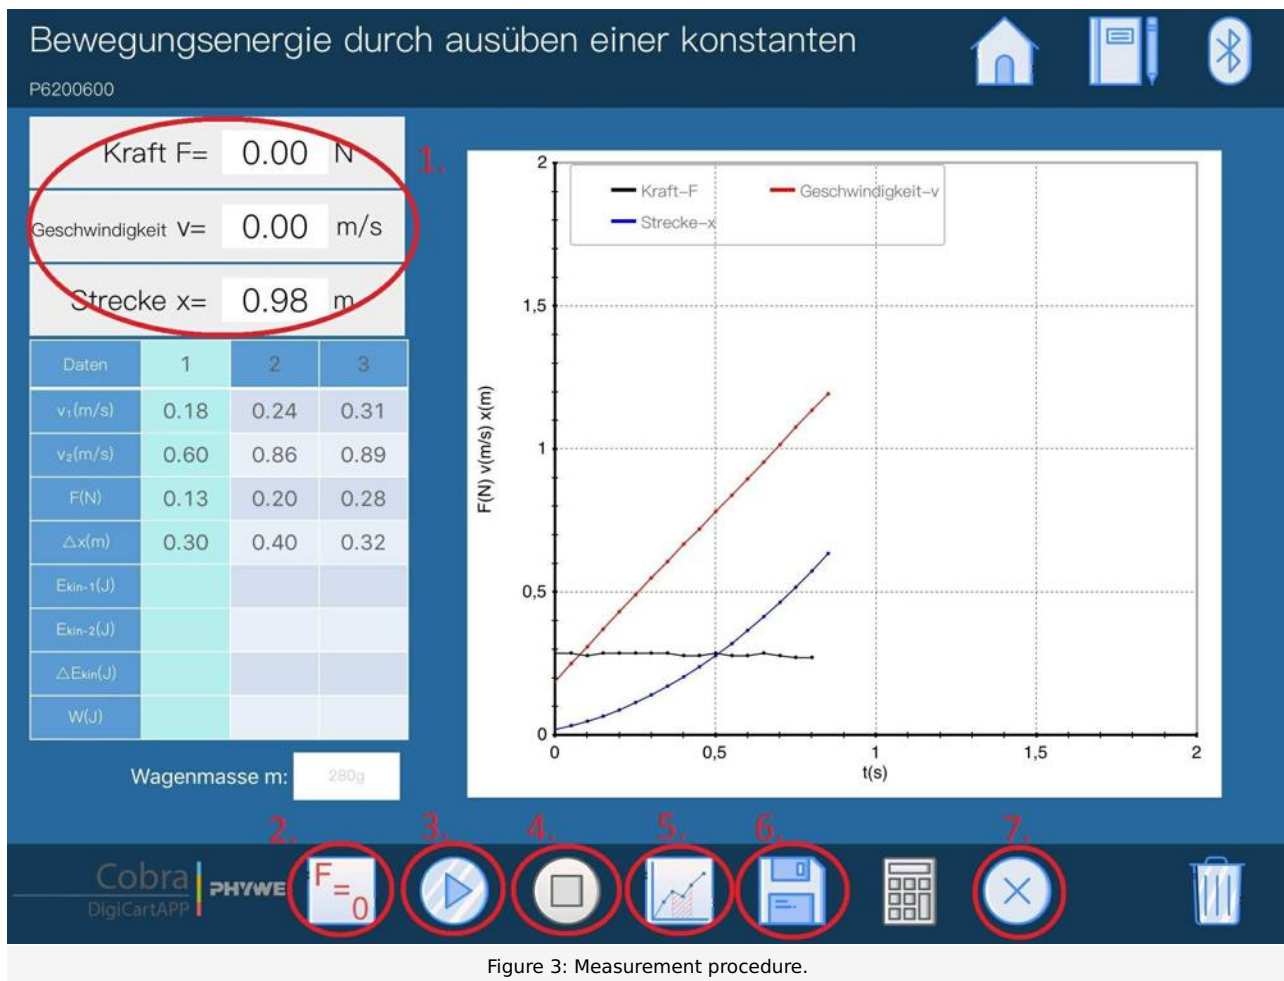

Figure 3: Measurement procedure.
- Figure 3 shows the steps for the measurement process.